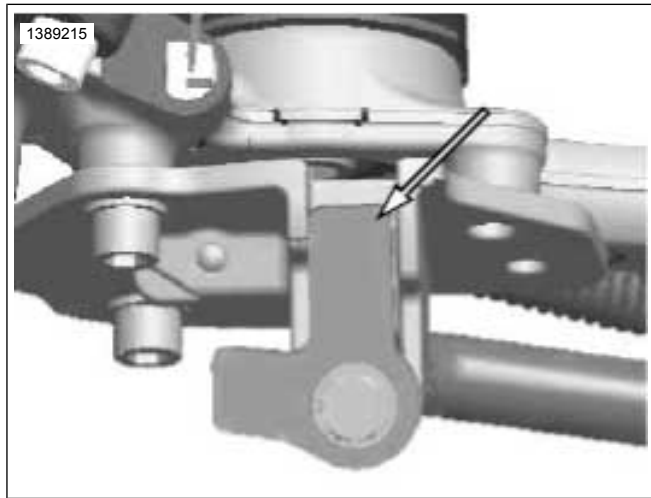

Figure 2-44. Jiffy Stand Stop
3. See Figure 2-44. Install new jiffy stand stop from kit with hardware removed in Step 1. Note the orientation of the new stop. Tighten bolt to 15-20 ft-lbs (20-27 Nm).